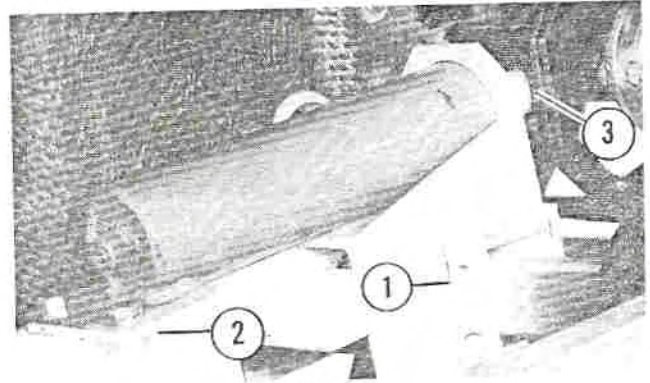

Fig. 7
Install two (2) 823914 brackets, two (2) 301431 screws and two (2) 800292 nuts to front frame as shown in Figure 7. This bracket assembly must hold the cylinder frame inward against torsilastic. Tighten all hardware to 10 ft. lbs.
Adjust and tighten rear of cylinder frame assembly to the Trackster center frame so that cylinder ram clears sprocket web by a minimum of 1/8". Torque to 10 ft. lbs. (See Figure 7)